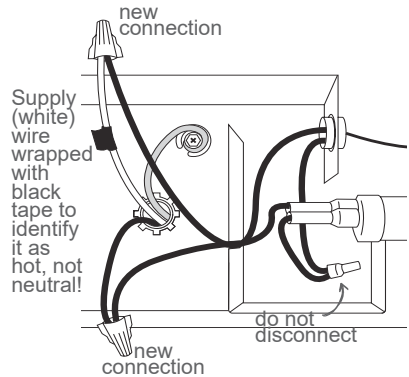

Figure 3
- A. for 240 volts, it doesn't matter which heater wire (Figure 3);
3. In the wiring compartment of each heater, connect one supply wire to one of the heater wires with a wire connector (not included), it doesn't matter which one (See Figure 3).
4. Connect the remaining supply wire to the remaining heater wire with a wire connector (not included) (See Figure 3).